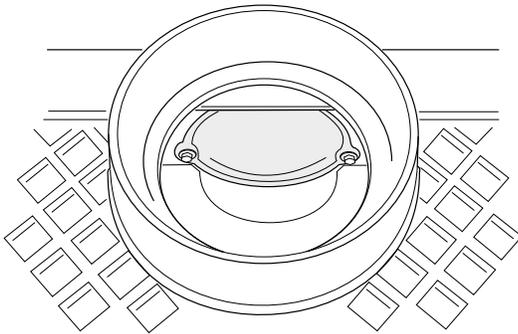

Figure 2. Remove the Rear Flue Outlet Cover Plate.
2. Reach through the top plate exhaust outlet to remove the two bolts and Rear Cover Plate from the back of the stove. See **fig. 2**.